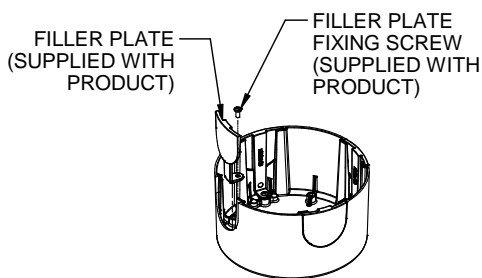

FIG 6.4A
4. To replace the Filler plates with 'U' Channel Inserts, unscrew the filler plate from the canopy and replace it with U channel insert and secure it with same screw (FIG 6.4A & 6.4B).